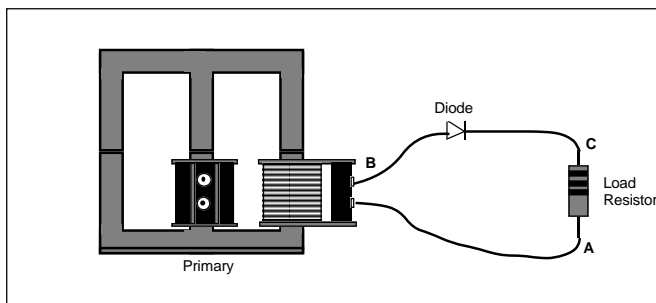

Figure 3
8. In this step, set the triggering of your oscilloscope to "LINE". This stabilizes the sweep so that it is synchronized with the a.c. line voltage. Now connect the ground lead (often a clip lead) from your oscilloscope to point A in Figure 3, and the probe to point B. Note the waveform. With the probe at point C, again note the waveform and also any differences between that and the one found at point A. How would you describe this difference?